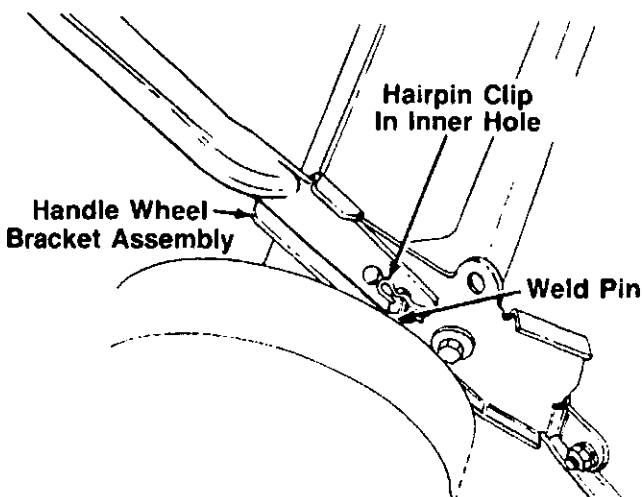

FIGURE 1.
3. Using a pair of pliers, squeeze one leg of the lower handle against the handle wheel bracket assembly. Insert the hairpin clip into the inner hole on the weld pin. See figure 1. Repeat on other side.